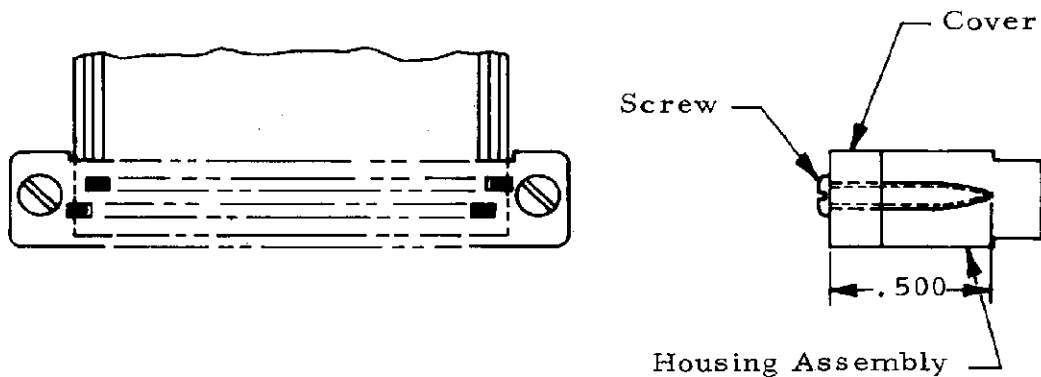

Figure 6
- (1) On 40 position connectors, cover is secured to housing assembly through mounting holes and applied screw as indicated in Figure 6.